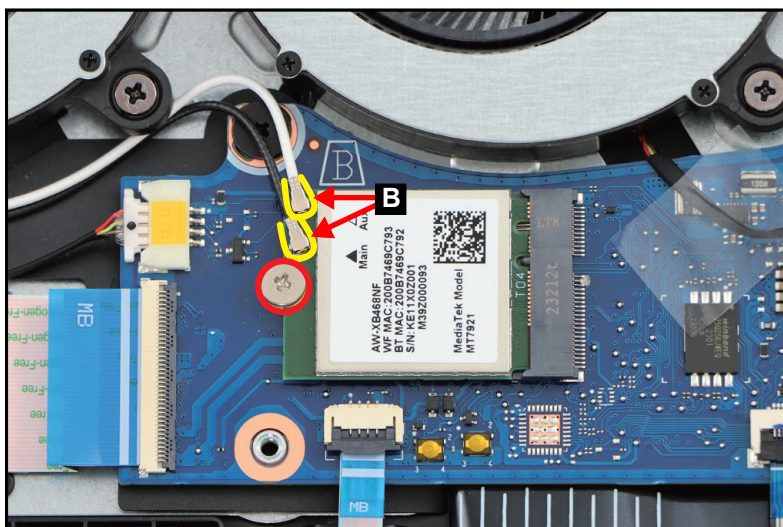

Figure 1-16. WLAN Module Removal
2. Disconnect the WLAN antennas cables from the WLAN module connectors (B) (Figure 1-16).
3. Remove one (1) screw securing the WLAN module in place (Figure 1-16).